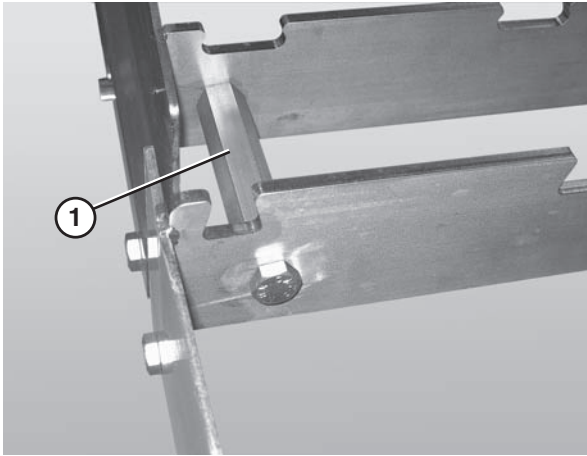

Figure 6
3. Connect the frame sections by bolting the hex post connectors (Figure 6, item 1) the sections of frame.